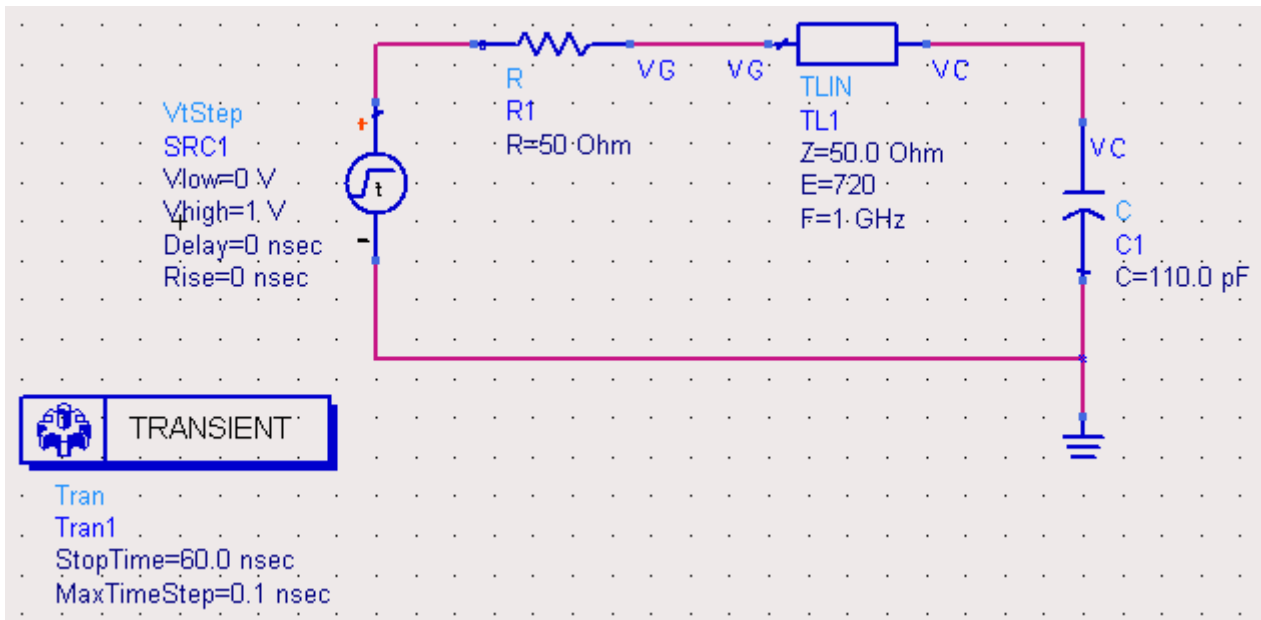

Figure 2: TDR simulation
3. Add the following components to your design as shown in Figure 2 below. Set the components parameters as shown in the figure.
- a. “Lumped-Components: Capacitor (C)” (rotate component with Ctrl-r)
- b. “Lumped-Components: Resistor (R)”